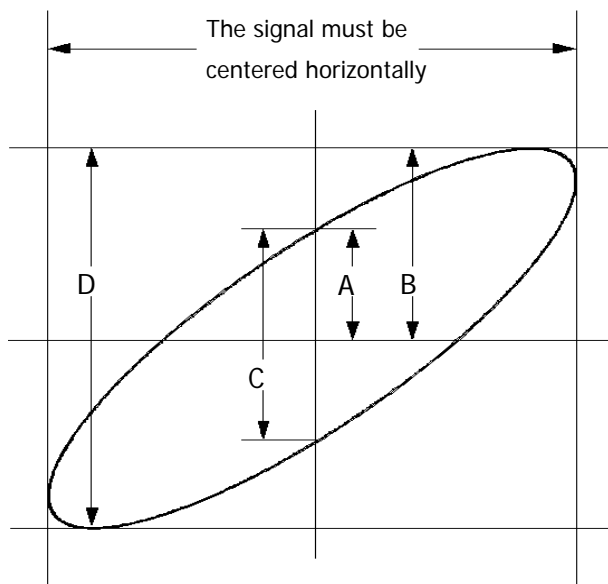

Figure 3-2 Measurement Schematic Diagram of Phase Deviation
4. Observe the measurement result shown in the figure above. According to the measurement schematic diagram of the phase deviation (as shown in Figure 3-2), $A/B (C/D) = 1$. Thus, the phase deviation angle $\theta = \pm \arcsin 1 = 90^\circ$.